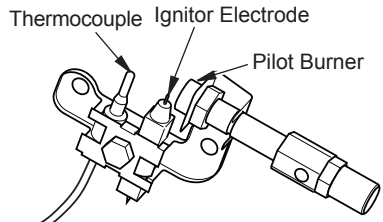

Figure 17 - Pilot
- Wait five (5) minutes to clear out any air. Then smell for gas, including near the floor. If you smell gas, STOP! Follow "B" in the safety information, page 16. If you do not smell gas, go to the next step.
- Turn control knob counterclockwise  to the PILOT position. Press in control knob for five (5) seconds (see Figure 17).